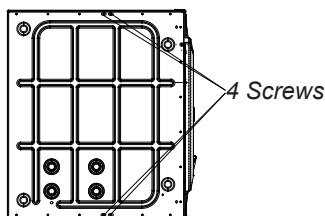
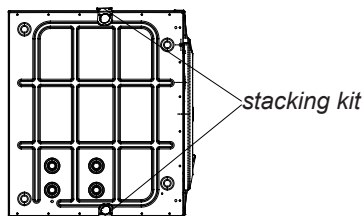

Fig.1
Fig.2
1. Remove 4 screws among screws on the bottom panel (see fig.1), and install the stacking kit on the bottom panel (see fig.2).